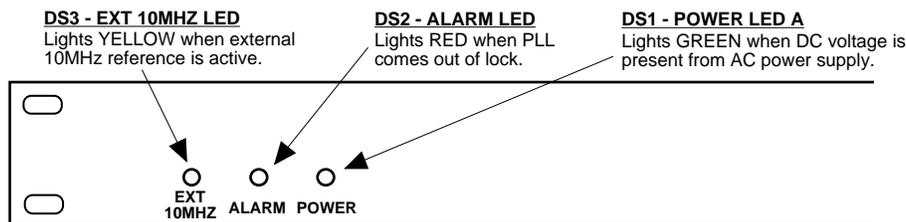

FIGURE 2.2 2116-109 Front Panel Controls and Indicators
Figure 2.2 shows the front panel indicators.
4. Be sure DS1 (green, DC Power) is on and DS2 (red, Alarm) is off (Figure 2.2).
6. If EXT is selected or AUTO is selected and there is a 10MHz, 3 dBm signal at J2, check that DS3 (yellow, Ext 10MHZ) is on (Figure 2.2).